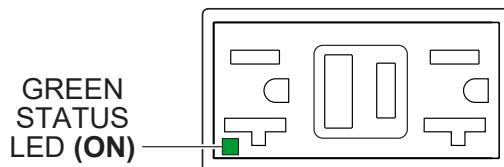

Figure 72. GFCI Receptacle (ON)
3. Verify that the status LED on the corresponding GFCI receptacle (Figure 72) is **ON (GREEN)**.